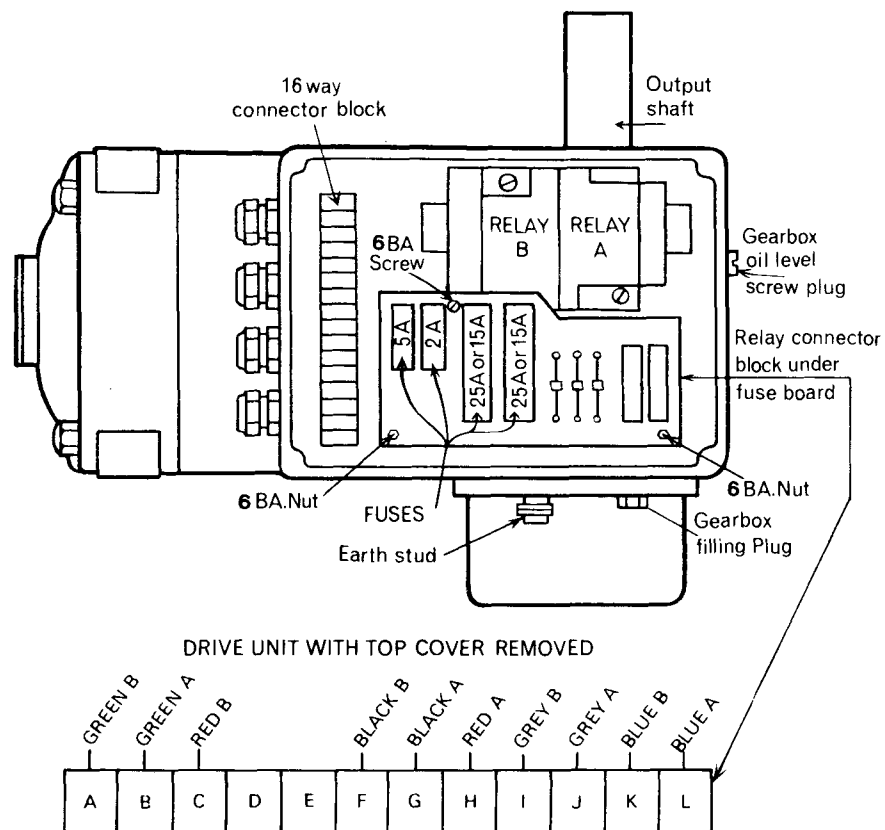

FIG.13 RELAY CONNECTOR BLOCK
- 5.1 **FUSES.** situated under the top cover of the Drive Unit and from (see Fig. 13.) the 16 way terminal block are:
- 5.3 **REPLACEMENT OF RELAYS.** (Potter and Brumfield Type PR5DY). It is important that the Drive Unit and Control Unit Isolators are switched OFF, or alternatively the battery connections are disconnected. Access to the Relays may be gained by removing the top cover from the Drive Unit. See Figure 13. The relays are each secured to the base plate by means of 2 -- 4 BA screws and washers. The relay connections are made to a terminal block located beneath the fuse and suppression panel. The latter held by 2 -- 2 BA nuts and washers and 1 -- 6 BA screw and washer in the positions shown in Figure 13, and removal will allow the fuse board to be hinged aside on its wiring in a direction towards the 16 way connector block. Note the position of the wiring where it emerges from beneath the relay base. Disconnect the relays and remove, taking care not to strain the small leaf springs in the connector block when disconnecting.
The new relays should be screwed into position with the wiring in the position noted for the originals, and care should be taken that all wires are free to move and not trapped. Ensure that the loop of insulated wire connected to the armature of the relay is clear of obstruction and free to move. Connect the relays to the terminal block as shown in Figure 13 coiling excess wire neatly, and refit the fuse board. During the latter operation it is especially important to ensure that the wiring connections beneath the fuse board are not trapped between it and the terminal block, to avoid possible puncture of the insulations by the terminal pins in the board.